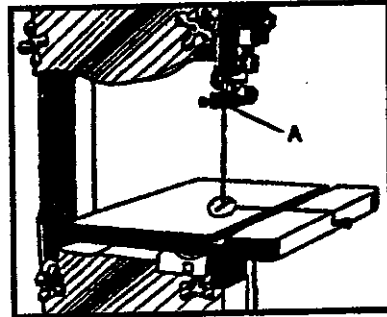

Fig. 20
The upper blade guide assembly should also be adjusted so that the blade guides (A) Fig. 20. are flat with the blade.